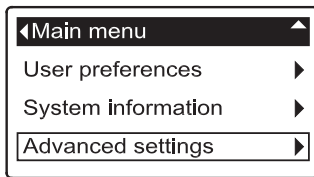

FIG. 72
1. From any of the rolling status screens, press the SELECT (O) button to display the **Main menu**.
2. Press the DOWN (▼) button to scroll through the menu options until **Advanced settings** is highlighted (See Figure 72).